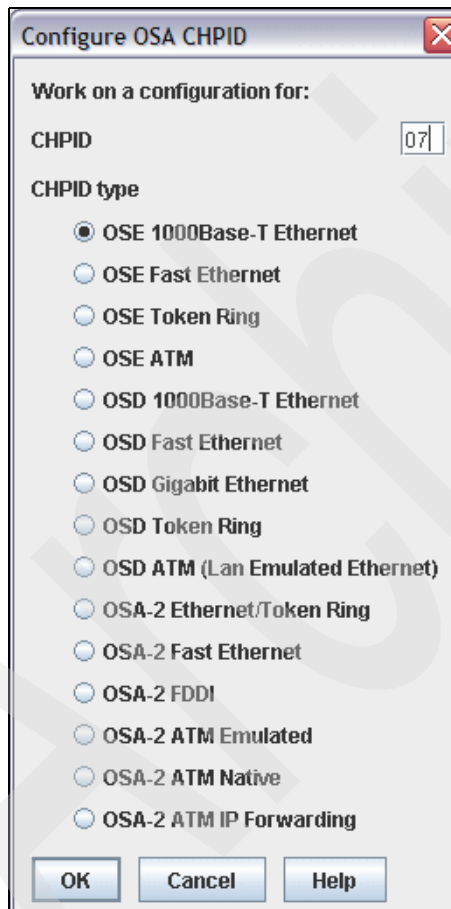
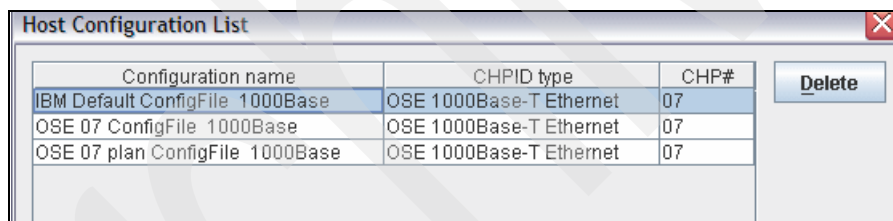

Figure 3-22 OSA/SF Workstation Interface - Configure OSA CHPID
Figure 3-24 OSA/SF Workstation Interface - Host configuration list (OSD 1000Base-T Ethernet)
2. The Configure OSA CHPID panel displays (Figure 3-22). Select the CHPID number and the CHPID Type that you want to define, and click **OK**.
OSA/SF displays a Host Configuration List panel containing the names of previously saved configuration files that match the feature type (Figure 3-24).
Note that the Host Configuration List being displayed will vary with the OSA Express2 feature type selected in Figure 3-22. For example, a request for OSD 1000Base-T Ethernet displays the list shown in Figure 3-24.